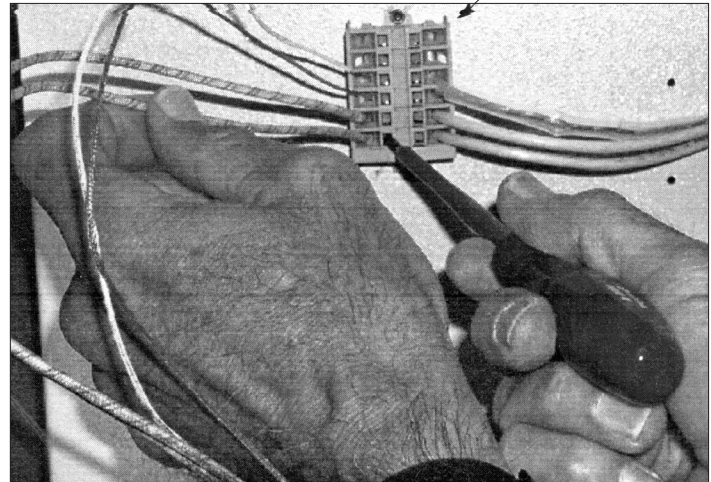

Figure 12 - Use an 1/8" flat head screwdriver to remove the heater wires from the Wago Connector
- 6 Locate the 4 wires that exit the catalyst module and are attached to a Wago connector. Remove each wire from the Wago connector using an 1/8" flat head screwdriver. Push the screwdriver into the slot next to the wire while pulling the wire out of the connector (see Figure 12).
- 11 Place the wires from the catalyst module into the Wago connector in this order, starting from the bottom and going up: one of the heater wires, next heater wire, red thermocouple wire, and then the yellow thermocouple wire (see Figure 12).